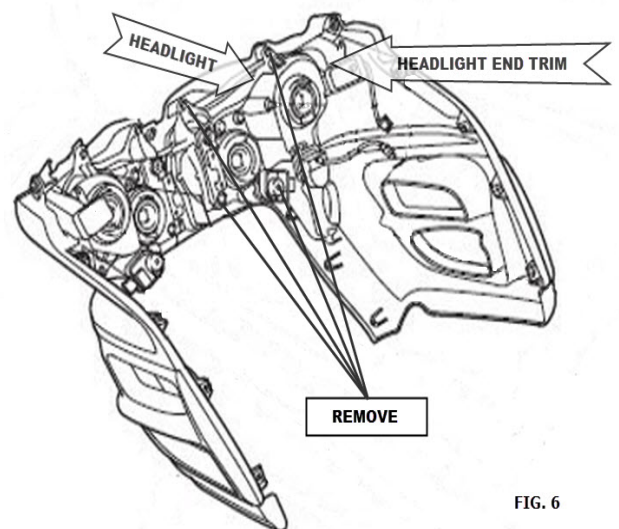

FIG. 6
15. USING A 10MM WRENCH REMOVE THE FOUR BOLTS HOLDING EACH HEADLIGHT ASSEMBLY TO THE FAIRING AND REMOVE THE HEADLIGHT ASSEMBLIES. (SEE FIG. 6)